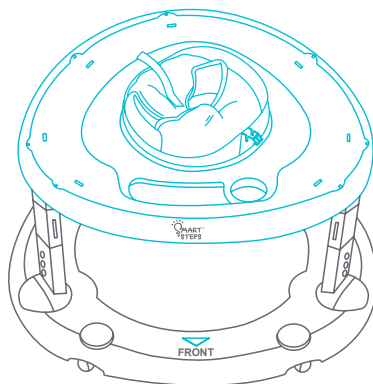

Fig. 1c
- Be sure to lineup the tabletop tray **logo** with the base that has the imprinted **"FRONT"** lettering (Fig. 1c).